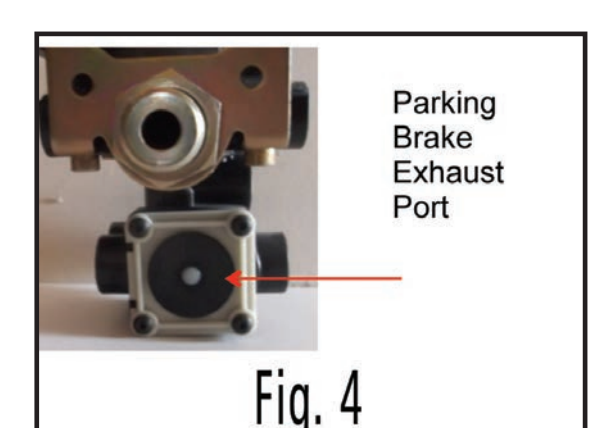

Fig. 4
- Leaks air at parking brake's exhaust port with park brakes released. See Fig. 4